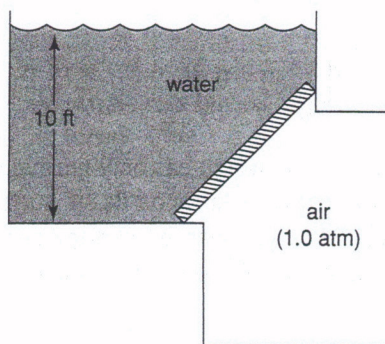

Figure 4.74
24. As a result of a flood, air is trapped in a room by water of depth 10.0 feet pressing down on a metal sheet as shown in Figure 4.74. How much force (a vector) is the water exerting on the metal sheet? How much force is the weight of the sheet exerting on the portions of the walls that are holding it in place? Is it possible for someone trapped in the room to push up the sheet? The sheet is 4 feet by 6 feet by 0.10 inch thick and made of steel (density = $0.286 \text{ lb}_m/\text{in}^3$).